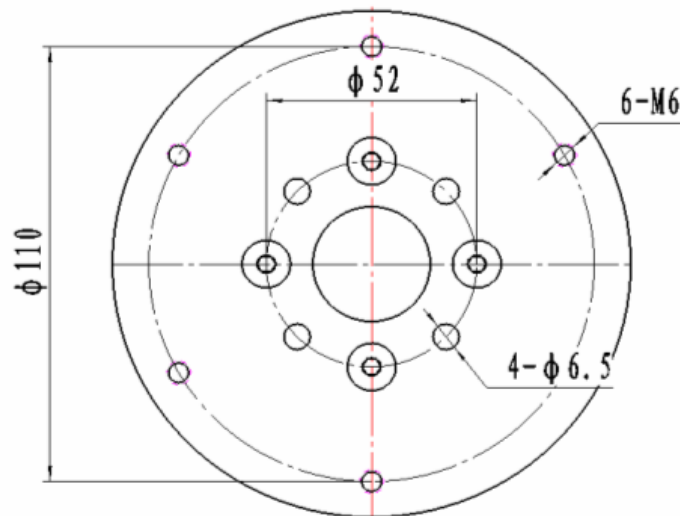

Figure 11
Both Vixen and Losmandy-D dovetail saddles are included for your convenience. Two (2) M6x20 hex head screws are used for the Vixen dovetail saddle. Additionally, four (4) M6x20 screws are provided for the Losmandy-D saddle installation. A customer-made large adapter can also be installed. The mounting-hole distribution on the mount is shown in Figure 11.